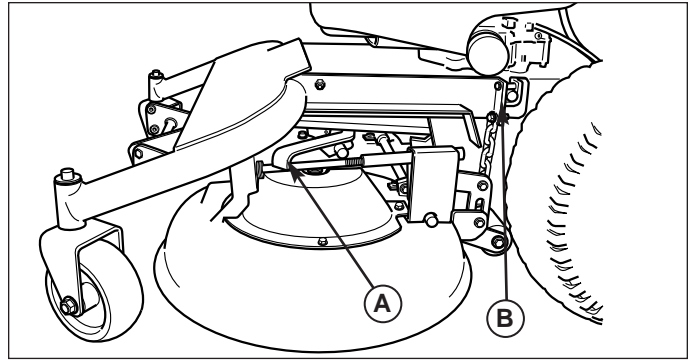

Figure 6. Mower Deck Access
3. Using the spring-loaded idler lever (A, Figure 6), release tension on the PTO belt and remove the belt from the engine pulley.
4. Remove the pins and clips (B, Figure 6) from both sides of the frame.
4. Install the clevis pins and clips (B, Figure 6).